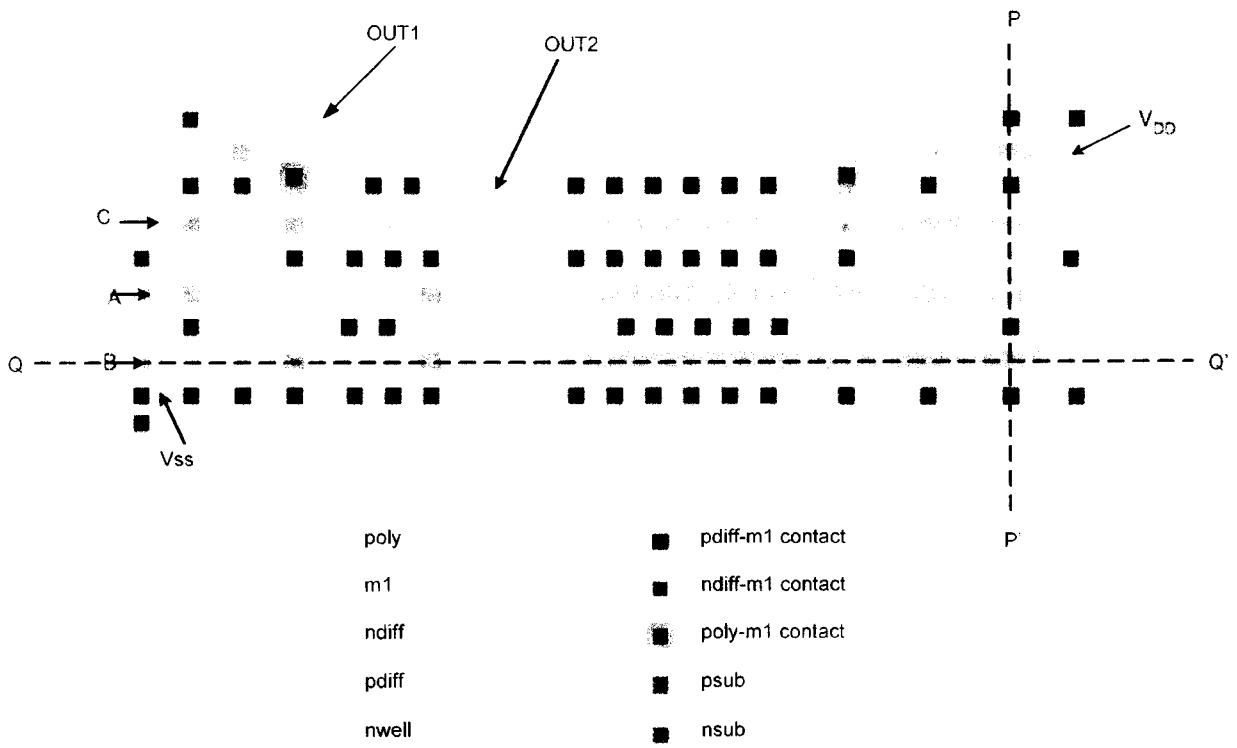

Figure 1.1 Layout of a full-custom cell for Question 1
1. a) Figure 1.1 (See the colour supplementary sheet) shows the layout of a CMOS cell with four inputs A, B and C, and two outputs OUT1 and OUT2. Extract and draw the transistor-level schematic diagram. [10]